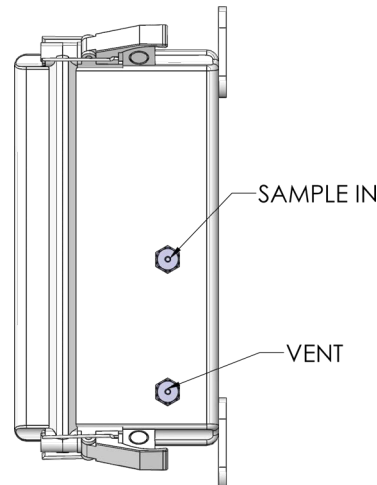
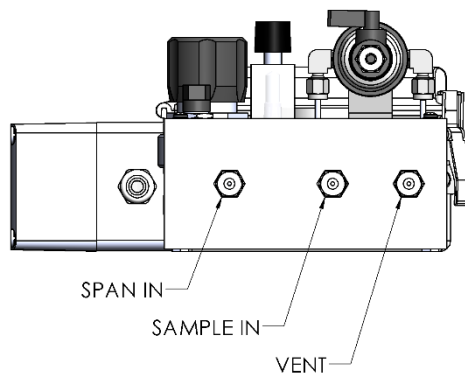

Figure 7. Gas ports (right elevation)
Figure 8. Gas ports: sample system (bottom elevation)
Your analyzer is equipped with at least 2 gas ports as shown in Figure 7.
1. See Figure 7 or Figure 8 on page 13 for port designation and connect your **Sample** and **Vent** lines accordingly.